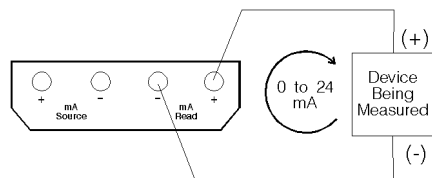

FIGURE 3 - CURRENT LOOP READINGS
3. When reading a current loop, the CL260 can measure over a range of 0-24mA. Connections are shown in Figure 3.